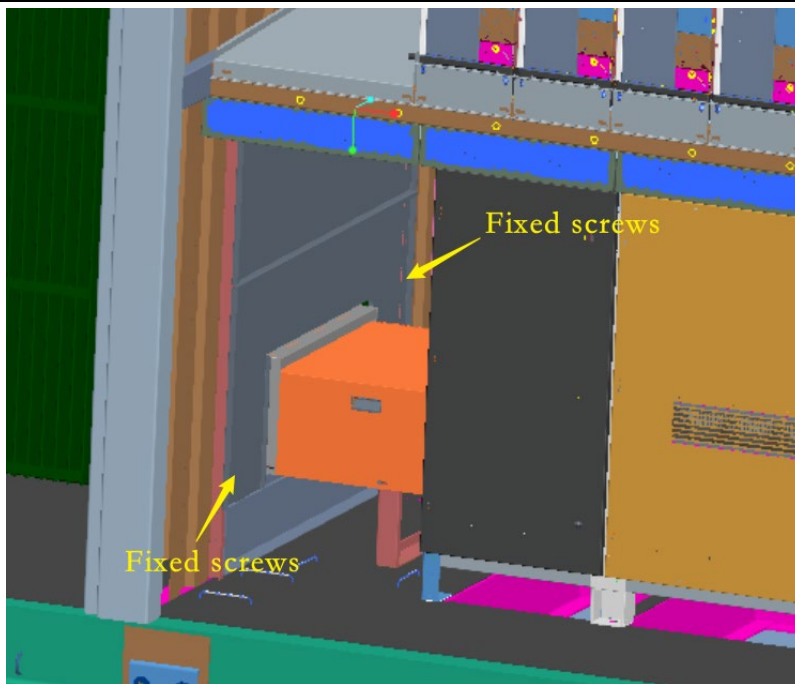

Figure 4-6 Schematic diagram of dismantling the isolation baffle
8. Remove the 8 screws of the isolation baffle on the left side of the low-voltage copper bar bridge, remove the isolation baffle and put it in one place, then remove the 4 fixing screws of the bridge cover, and pull the cover to the low-voltage cabinet side until the dust-proof cotton can be operated. as shown in Figures 4-6 and 4-7 below;